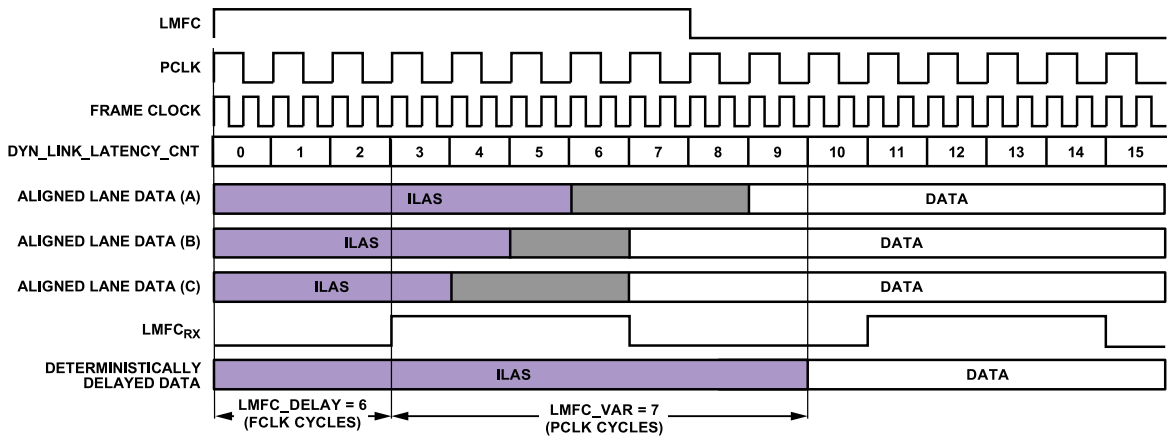

Figure 59. Multilink Synchronization Settings, Derived Method Example
Figure 59 shows how DYN_LINK_LATENCY_x (Register 0x302 and Register 0x303) provides a readback showing the delay (in PClock cycles) between LMFC_{RX} and the transition from ILAS to the first data sample. By repeatedly power cycling and taking this measurement, the minimum and maximum delays across power cycles can be determined and used to calculate LMFCVar and LMFCDel.
The example shown in Figure 59 is demonstrated in the following steps according to the procedure outlined in the Without Known Delays section. Note that this example is in Subclass 1 to achieve deterministic latency, which has a PClockFactor (frame clock rate/PClockRate) of 2 and uses K = 16; therefore, PClocksPerMF = 8.
1. In Figure 59, for Link A, Link B, and Link C, the system containing the AD9135/AD9136 (including the transmitter) is power cycled and configured 20 times. The AD9135/AD9136 are configured as described in the Device Setup Guide. Because the point of this exercise is to determine LMFCDel and LMFCVar, the LMFCDel is programmed to 0 and DYN_LINK_LATENCY_x is read from Register 0x302 and Register 0x303 for Link 0 and Link 1, respectively. The variation in the link latency over the 20 runs is shown in Figure 59 in gray.